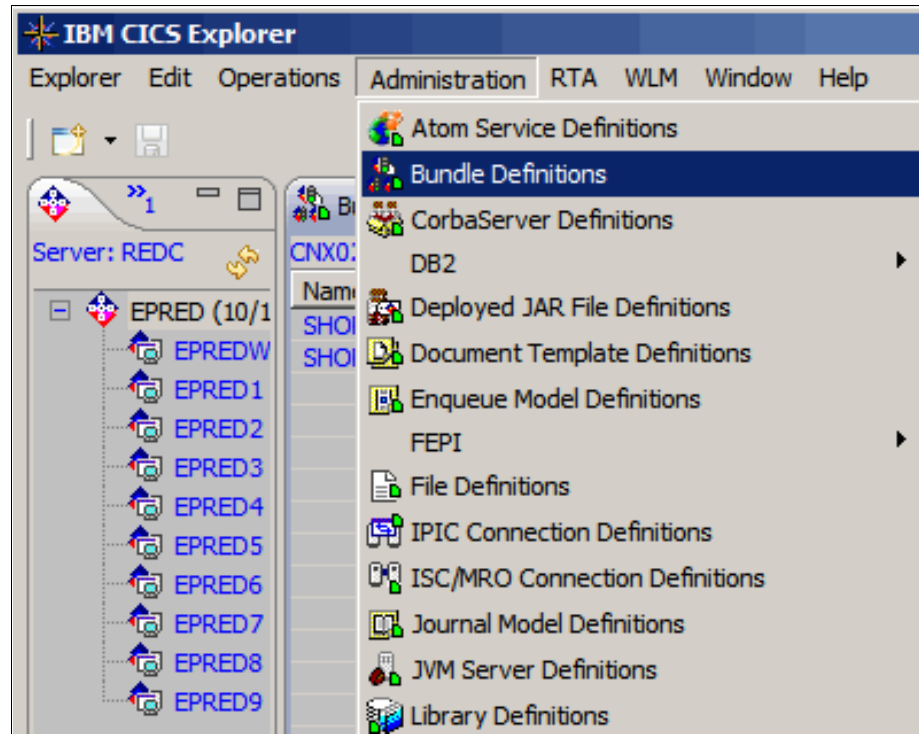

Figure 4-13 Bundle definitions to view the list of BUNDDEF resource definitions
1. From the IBM CICS Explorer toolbar, click **Administration Bundle Definitions** to view the list of BUNDDEF resource definitions. See Figure 4-13.